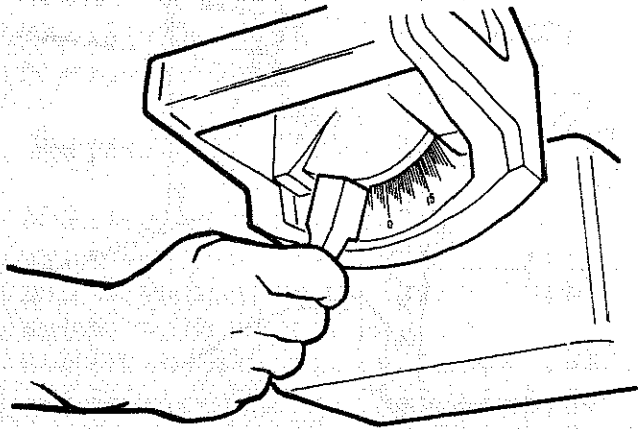

Fig. 177 - Bevel Lock - Locked
2. Position the motor at approximately 30° bevel angle and lock *bevel lock*. (Figure 177)